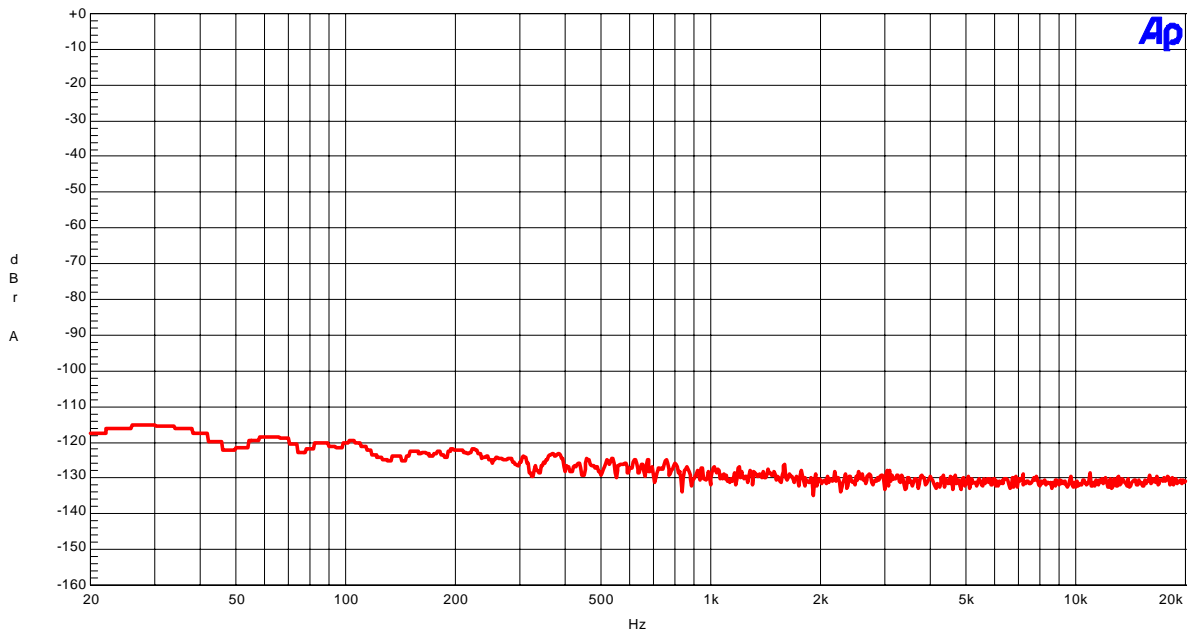

Figure 2-1-8. FFT (noise floor)
- Figure 2-1-8. FFT (noise floor)